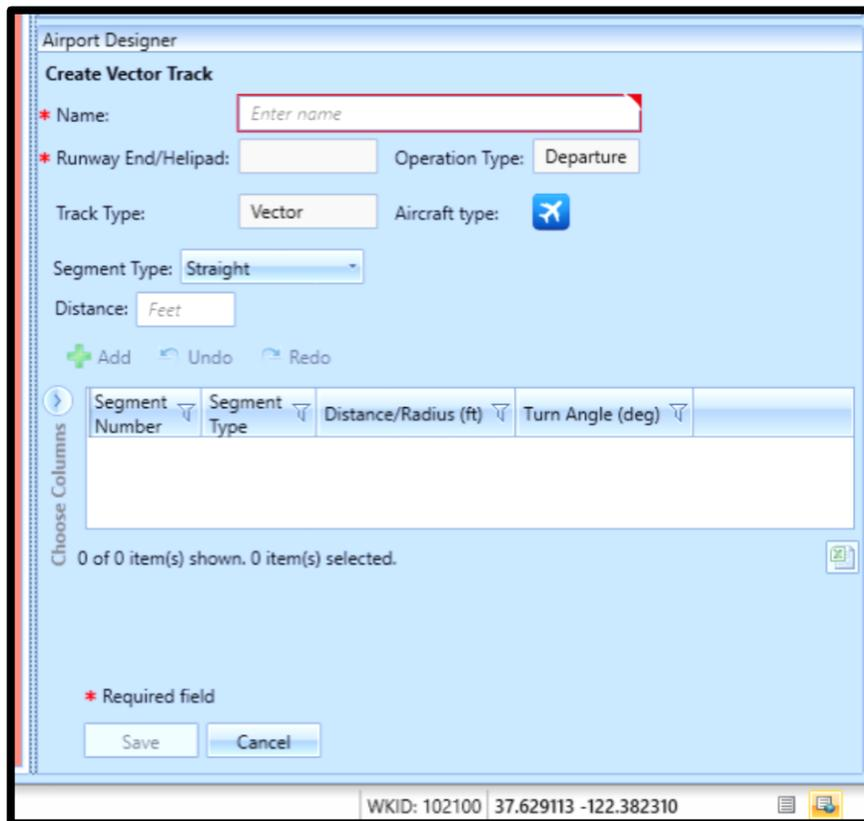

Figure 9- Create Vector Track
2. Click *Add Vector Track*, and select *Departure*. The *Create Vector Track* pane will show in the lower right hand corner. Note that the fields marked with a red (\*) are required (Figure 9).